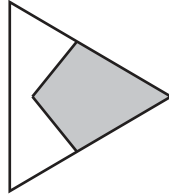

Fig. 2.1
- (a) (i) Draw a large plan diagram of the region of the stem on **K1** indicated by the shaded region in Fig. 2.1. Use a sharp pencil.